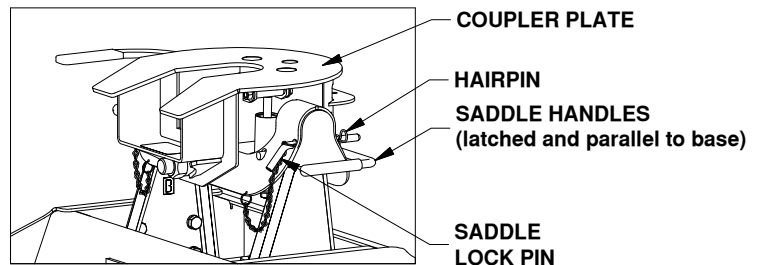

Figure G1: Coupler installed on base.
- Place coupler.** Lubricate the polyurethane bushings on top of pivot arms with high grade lithium grease (available at your local hardware/automotive store). Place the coupler over the pivot arms. (The saddle handles should be parallel with the base in the latched position.) Place the saddle lock pins through the saddle, then insert the hairpins through the holes in the end of the saddle lock pins to secure the coupler to the pivot arms, see Figure G1.